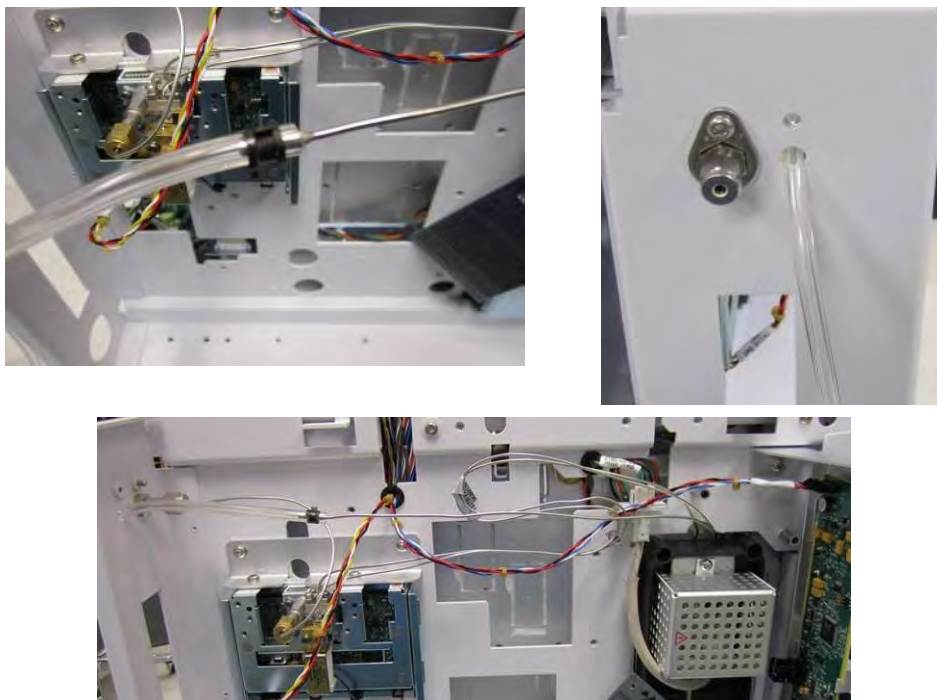

Figure 27 Install μ ECD vent tube
- 7 Install the μ ECD vent tube onto the μ ECD module and route the μ ECD gas tubing to the detector body as shown in Figure 27.
- 8 Route the μ ECD vent tube out the back of the 3rd detector box assembly. See Figure 27.